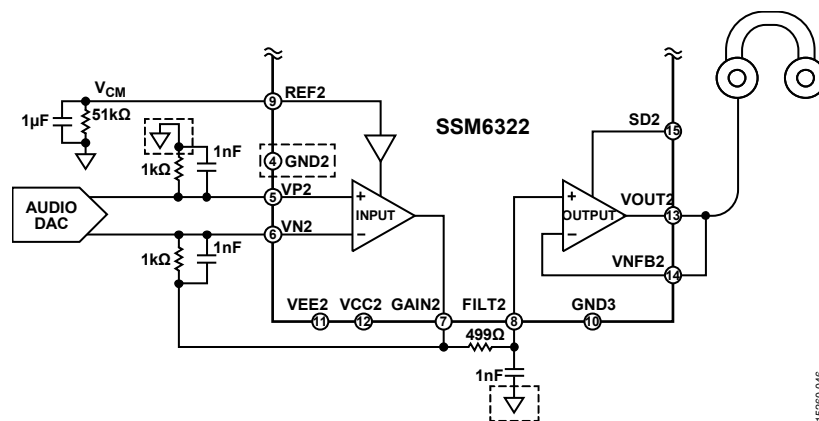

Figure 48. Sensing Ground of Input Stage
- The sensing ground of the input stage is sensitive to external interference. In the PCB layout, it is recommended to refer the sensing ground to the output interface ground (in high fidelity headphone driver applications, the output interface is the jack). As shown in Figure 48, the dashed outline enclosed ground is the input stage sensing ground, which must be routed directly to the ground of the jack. Note that Figure 48 only shows one channel; for the other channel, route the sensing ground to the jack ground separately.